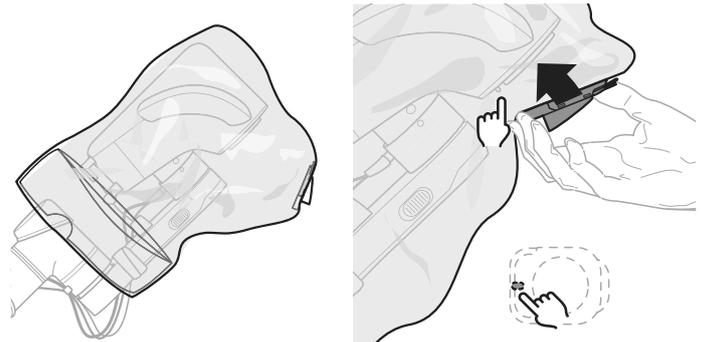

Fig. 18
- ▶ Put the drape over the camera, align the lens using the locking pin and attach the lens housing to the ocular ring using snap elements on the side, see Fig. 18.